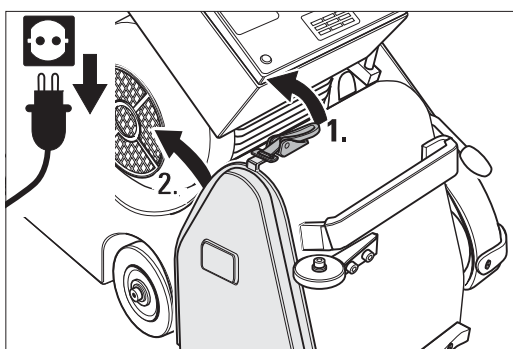

Fig. 32 Release the cover lock and remove the side cover.
- 2 Remove the side cover (Fig. 32).
- 2 Remove the side cover (Fig. 32)